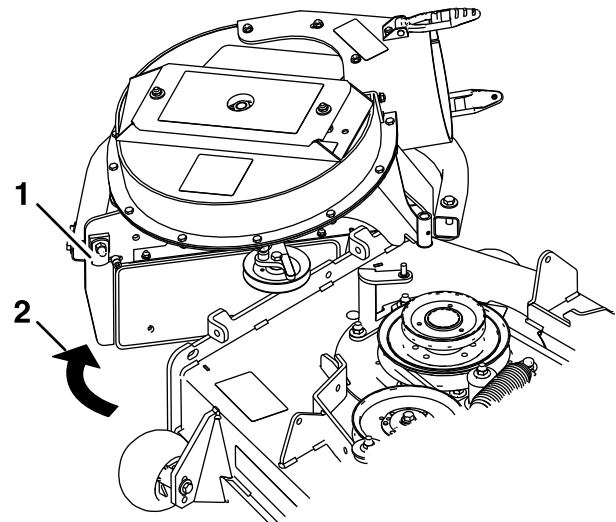

Figure 25
9. Unlatch the front end of the blower, pivot the blower back, and lift it off the deck (Figure 25).